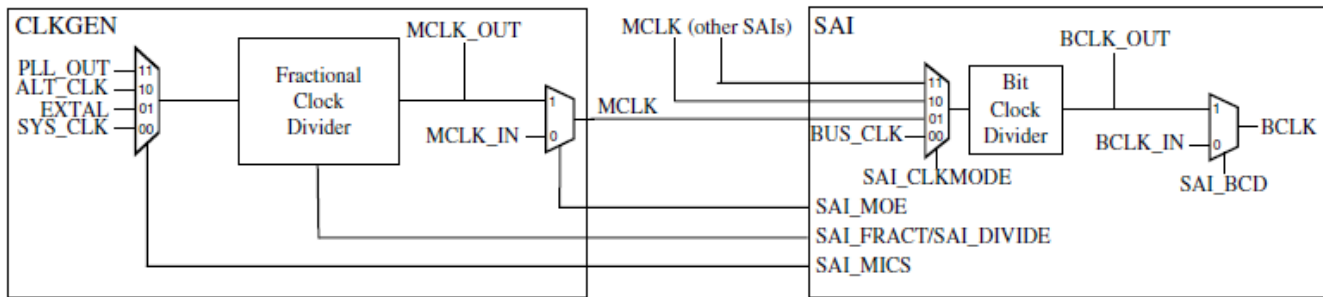

Figure 7. SAI clocking diagram
- Configure the clocking mode, bitclock polarity, direction, and divider. Clocking mode defines synchronous or asynchronous operation for SAI module. Bitclock polarity configures polarity of the bitclock. Bitclock direction configures direction of the bitclock. Bus master has bitclock generated externally, slave has bitclock generated internally – see Figure 7.